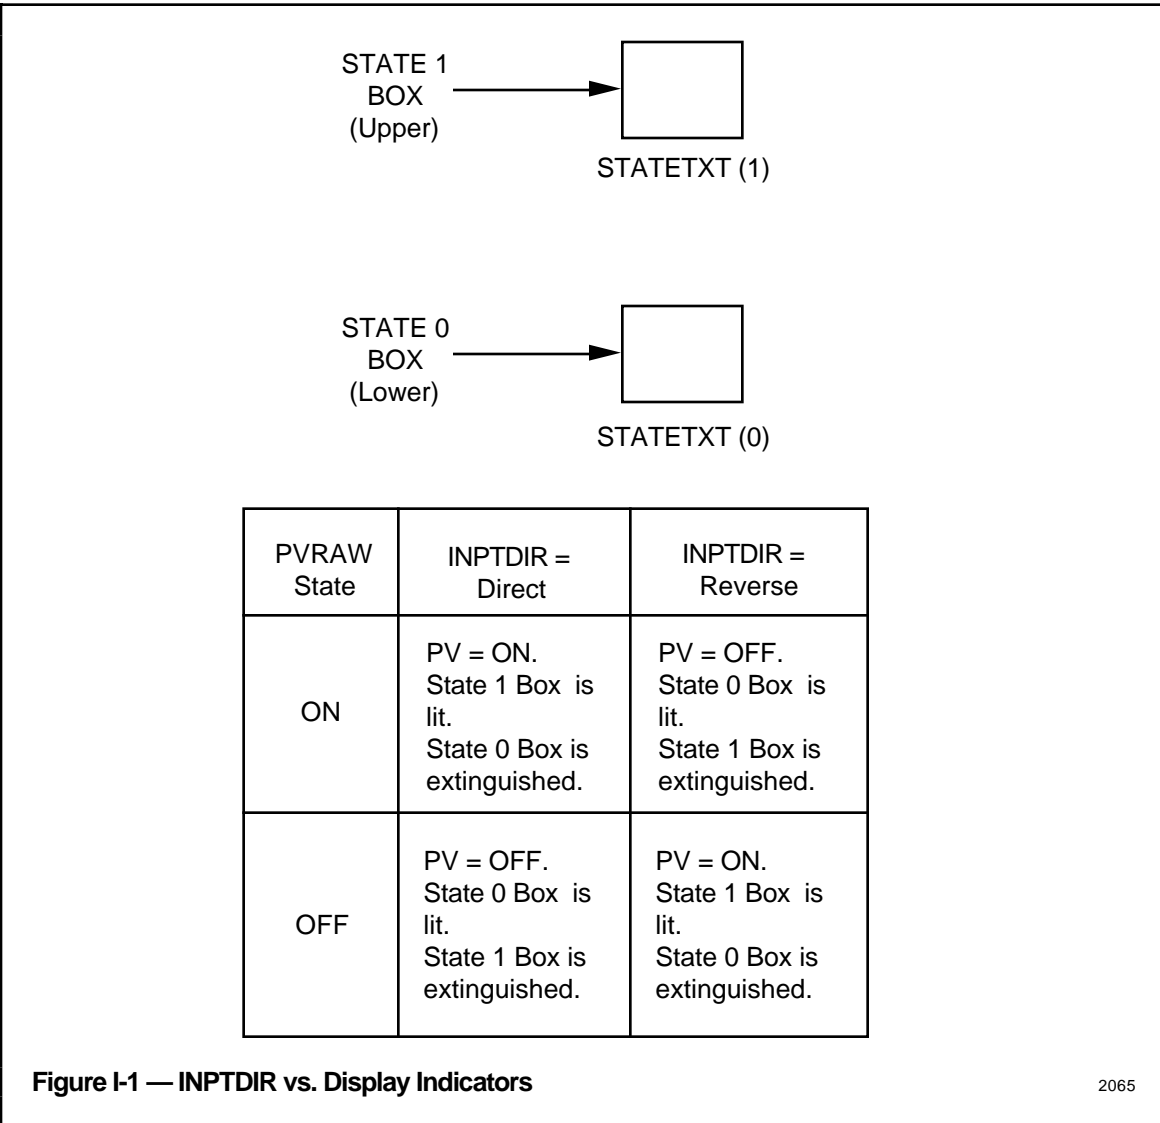

Figure I-1 — INPTDIR vs. Display Indicators
**Default:** Direct See Figure I-1.